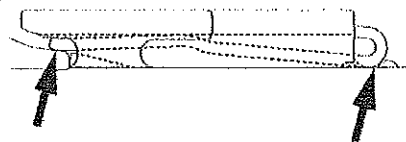

Fig. 27-Correct position of IFAST spring
4. Check the position of the spring, Fig. 27. The toe of the IFAST spring has to be on the stock rail foot, the rear end needs to be secured by the embossment.